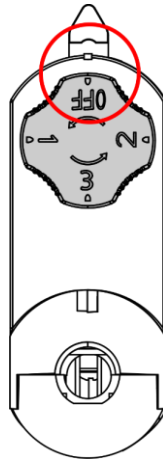

Fig. 12
- 03) Set the **circuit selector (03)** in OFF position, as shown in Fig. 12.